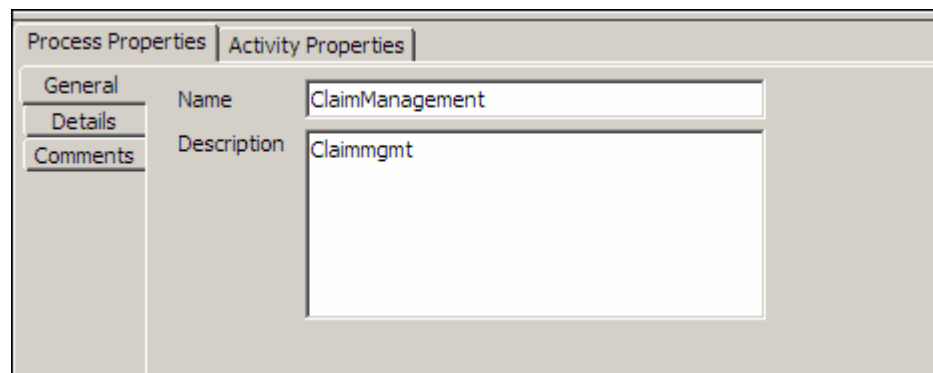

Figure 7.14: Viewing Properties of Entire Process Model
1. Click the **Process Properties** tab in the Bottom Pane. It displays the properties for the entire process model in the *Process Properties Panel* in the Bottom Pane (see Figure 7.14).